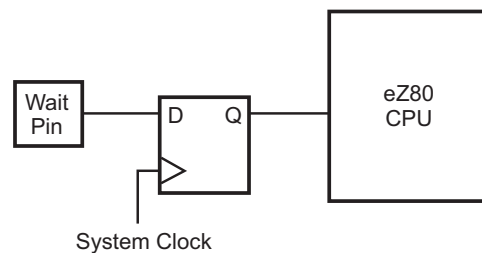

Figure 7.Wait Input Sampling Block Diagram
**Caution:** If the  $\overline{WAIT}$  pin is to be driven by an external device, the corresponding Chip Select for the device must be programmed to provide at least one WAIT state. Due to input sampling of the  $\overline{WAIT}$  input pin (shown in Figure 7), one programmable WAIT state is required to allow the external peripheral sufficient time to assert the  $\overline{WAIT}$  pin. It is recommended that the corresponding Chip Select for the external device be programmed to provide the maximum number of WAIT states (seven).